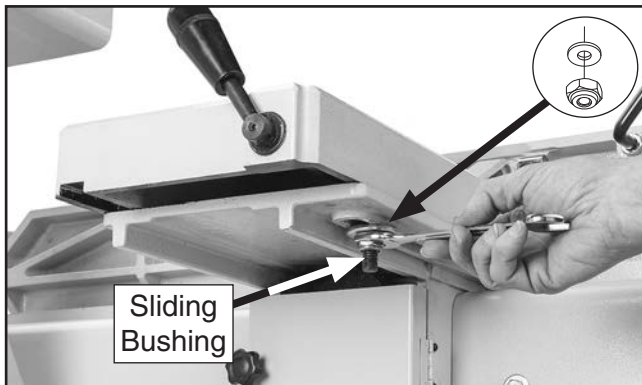

Figure 17. Securing sliding bushing.
3. Secure sliding bushing with (1) M12-1.75 lock nut and (1) 12mm flat washer, as shown in **Figure 17**.